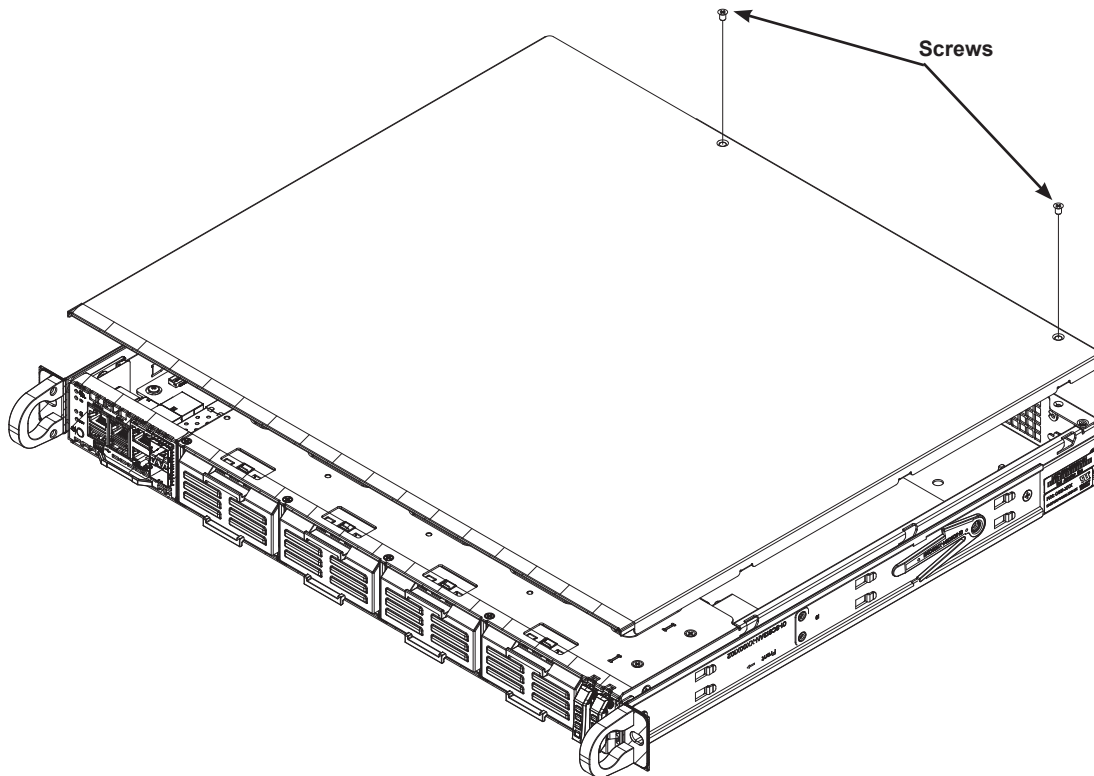

Figure 3-1. Removing the Chassis Cover
2. Remove the two screws securing the cover to the chassis. See Figure 3-1.